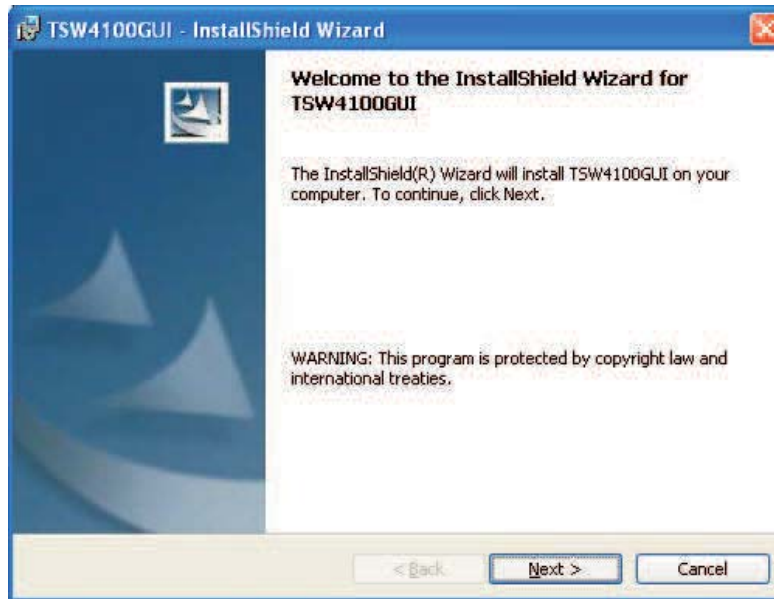

Figure 8. TSW4100 Installation Welcome
1. Double-click the *TSW4100GUIInstaller.exe* filename found in the top-level folder of the TSW4100 Installation CD-ROM. The TSW4100 Installation Wizard (Figure 8) displays. Click *Next*.